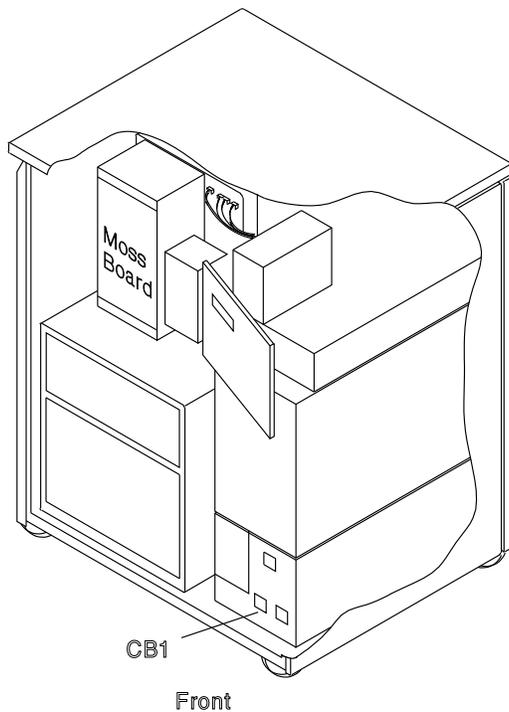

Figure 4-125. MOSS Board and CB1 Locations
4. **Switch CB1 OFF.** Refer to Figure 4-125.
5. Locate the board. Refer to Figure 4-125.